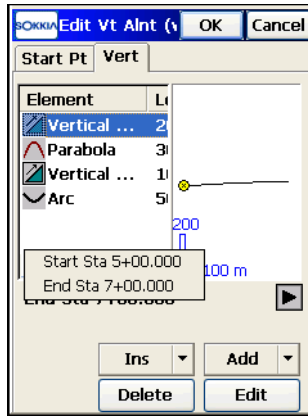

Figure 7-17. Information on Start and End Stations
- Tap *Station* information under the list of elements or long sections to view the start and end stations for the selected item (Figure 7-17 on page 7-16).
- Tap **OK** on the *Add Vt Alnt* screen (Figure 7-17) to save the vertical alignment created and return to the *Vt Alnt* screen. The new vertical alignment will be displayed in the list.
1. To add a vertical grade, select the *Vertical Grade* option from the **Insert** or **Add** floating menu on the *Vert* tab of the *Edit Vt Alnt* screen (Figure 7-17 on page 7-16).
1. To add a curve, select the *Curve* option from the **Insert** or **Add** floating menu on the *Vertical* tab of the *Edit Vt Alnt* screen (Figure 7-17 on page 7-16). The *Curve* screen displays.
- Tap **OK** to save the element to the road and to return to the *Add Vt Alnt* screen (Figure 7-17 on page 7-16).